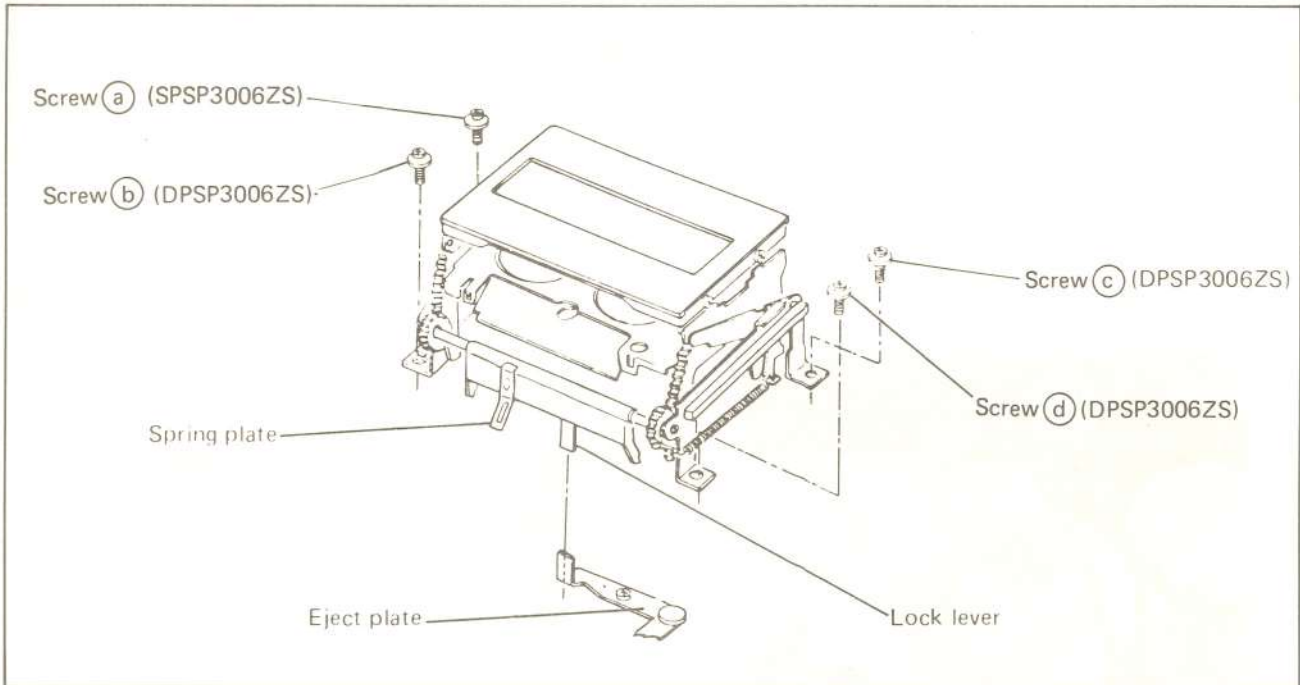

Fig. 4-5 Replacement of cassette housing
1. Remove four screws a, b, c and d from both sides of the cassette housing assembly as shown in Fig. 4-5.
3. Install the cassette housing and observe that the lock lever is positioned between the eject plate and the function assembly as shown in Fig. 4-5. If the lock lever is not in correct position, the EJECT key will not operate. And also, check that the spring plate touches to the junction assembly.